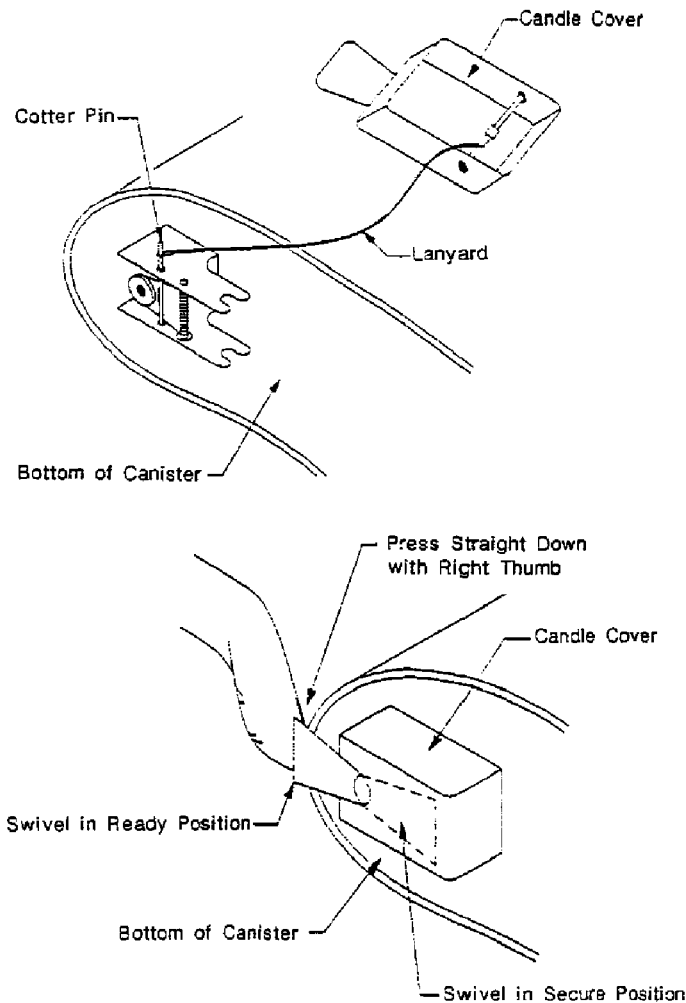

Figure 077-3-42. Candle Cover
**Do not pull the lanyard when removing candle cover. Pulling the lanyard removes the cotter pin, which fires the candle and generates oxygen. The cotter pin and candle cover are shown in Figure 077-3-42. If the canister is fired while the copper foil seal is still in place, pressure will build in the canister causing the copper foil seal to rupture.**
2. To remove candle cover, hold canister upside down and rotate swivel plate 180 degrees. Pull swivel plate up and toward center of canister, as is illustrated in Figure 077-3-42. Leave cover dangling from lanyard. Do not pull lanyard.